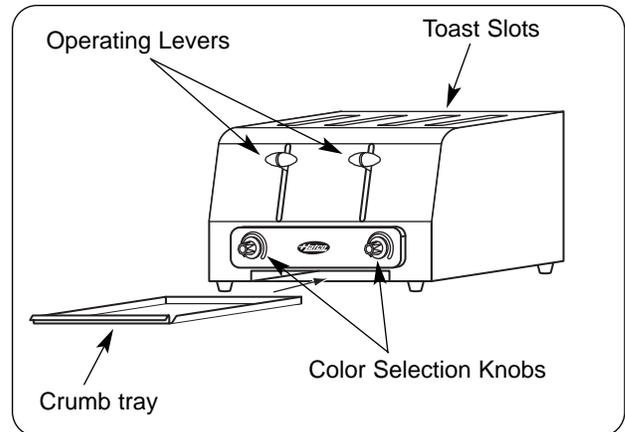

Figure 4. Controls and Crumb Tray
2. Set Color Selection Knobs to desired toast darkness. For lighter toast turn color selection knob counter-clockwise or for darker toast turn clockwise (See Figure 4).